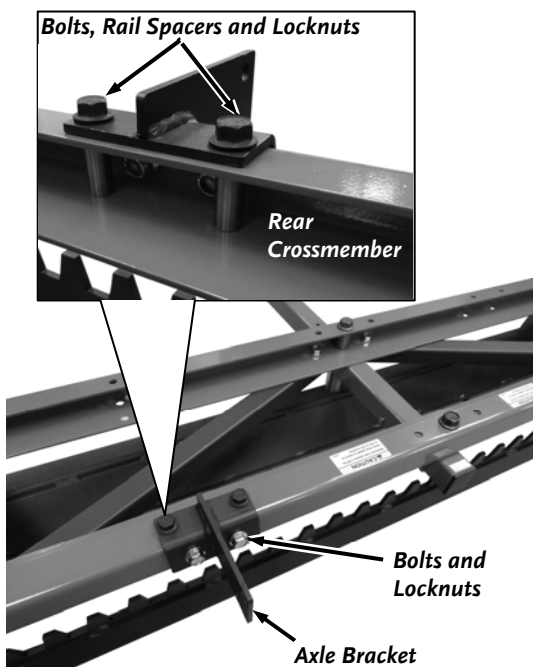

Figure 18
21. Secure the back side of the two Axle Brackets to the rear Crossmember with two 3/8-16X 3/4" Bolts (with Washers) and Locknuts (with Washers) using a Ratchet, Extension and 9/16" Socket on the inside and a 9/16" Wrench on the inside (**Figure 18**).